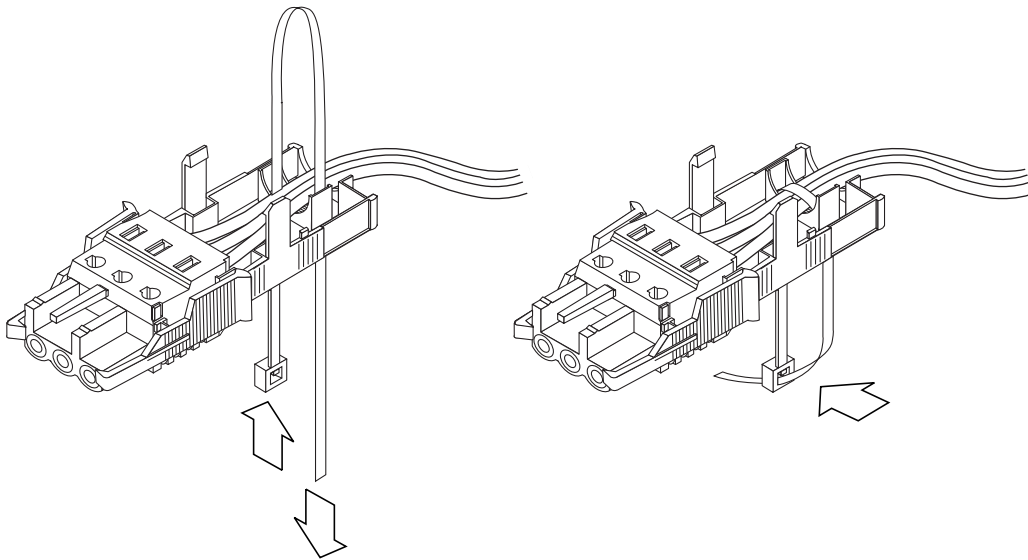

FIGURE 6-50 Securing the Wires to the Strain Relief Housing
- 4. Loop the tie wrap over the wires and back out of the strain relief housing and tighten the tie wrap to secure the wires to the strain relief housing (FIGURE 6-50).**